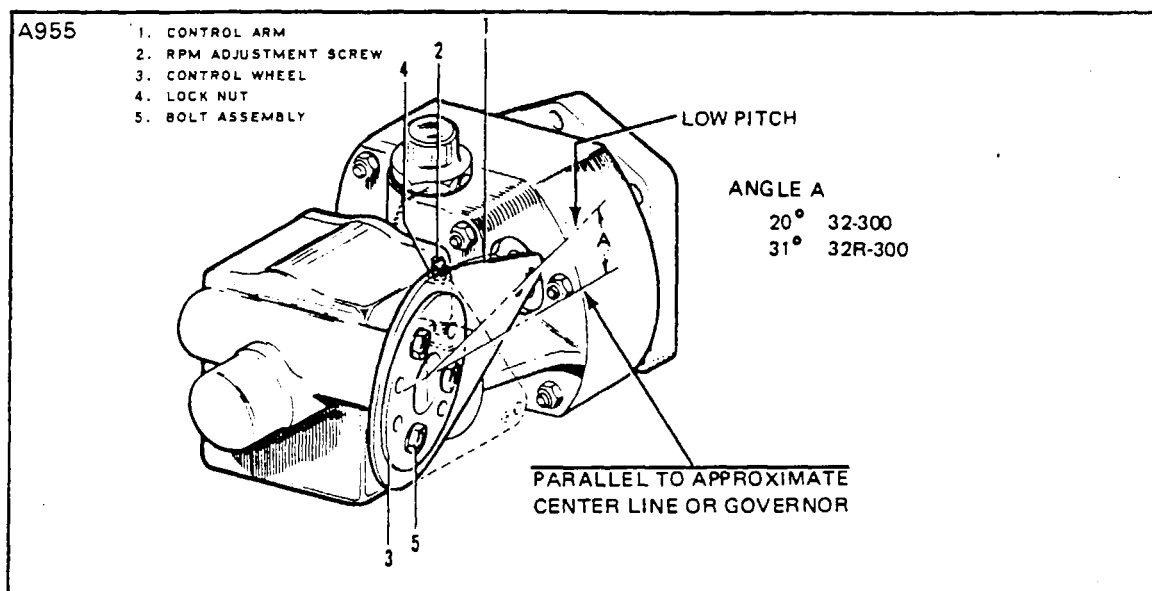

Figure 7A-3. Propeller Governor
#### 7A-11. RIGGING AND ADJUSTMENT OF PROPELLER GOVERNOR. (Refer to Figure 7A-3.)
5. Ascertain that the governor control arm (1) is adjusted to the proper angle on the control wheel (3) as shown in Figure 7A-3.